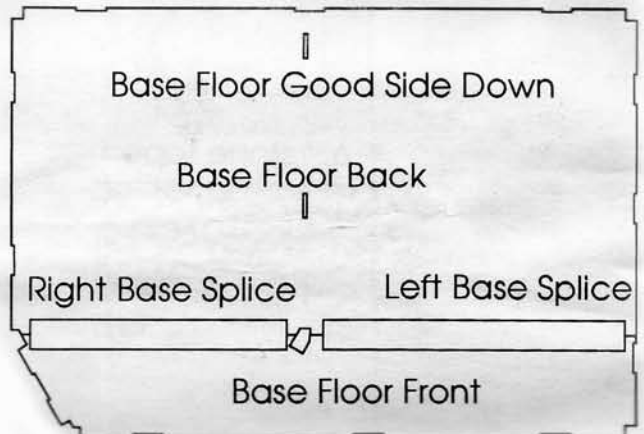

Figure 2
3. Turn the Base Floor Assembly over so that the **Good sides are down** and glue the Left and Right Base Floor Splices into position. See Figure 2.